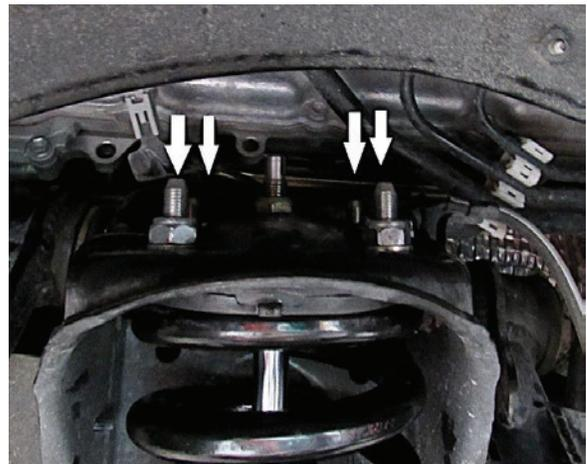

Figure 2: Top mount fastening to frame
- 3c. Remove (4) top mount bolts. (Figure 2). Warning: Do not remove nut in center. Retain OEM hardware for reuse. Tip: keep one nut loose but hand tight to prevent the shock from dropping out during the next steps.